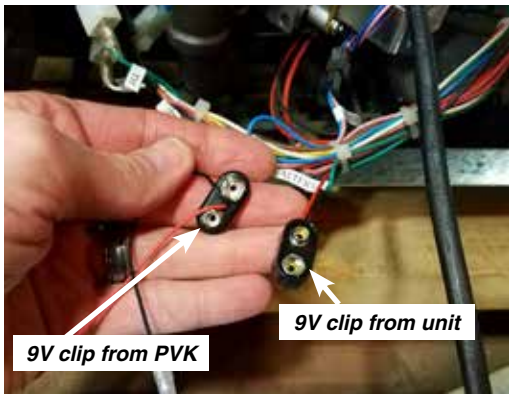

Figure 15a: 9V clips
18. Locate the 9V clip from the Power Vent Kit (PVK) and the 9V clip of the unit and plug them together as shown in Figure 15a & 15b.